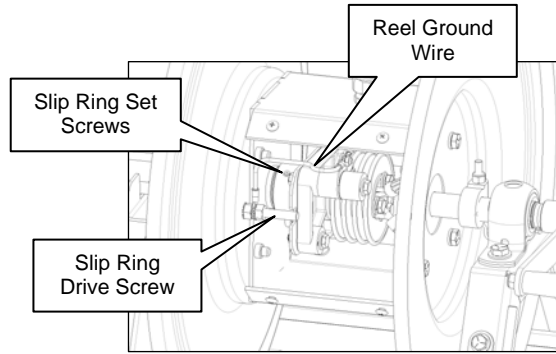

Figure 2
- 2) Inlet cord is most easily installed with the slip ring assembly removed from the reel. To remove the slip ring assembly from the reel, loosen the two set screws that hold the slip ring assembly on the axle as shown in **Figure 2**.
- 7) The slip ring mounting plate has a cutout, which must be aligned to the slip ring drive screw (see **Figure 2**), to properly operate slip ring assembly.
- 3) To properly ground reel, attach a ground wire from the ground terminal (should be terminal #2, green), to slip ring drive screw using suitable ring terminals as shown in **Figure 2**.
- 4) Loosen slip ring set screws as shown in **Figure 2**.